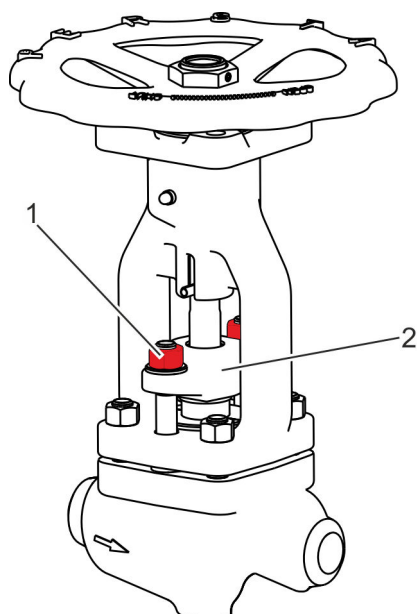

Fig. 48: Screw fastening the gland follower flange
32. Loosely screw together the gland follower flange (Fig. 48/2) with washers and nuts (Fig. 48/1) onto the stud bolts in the body.